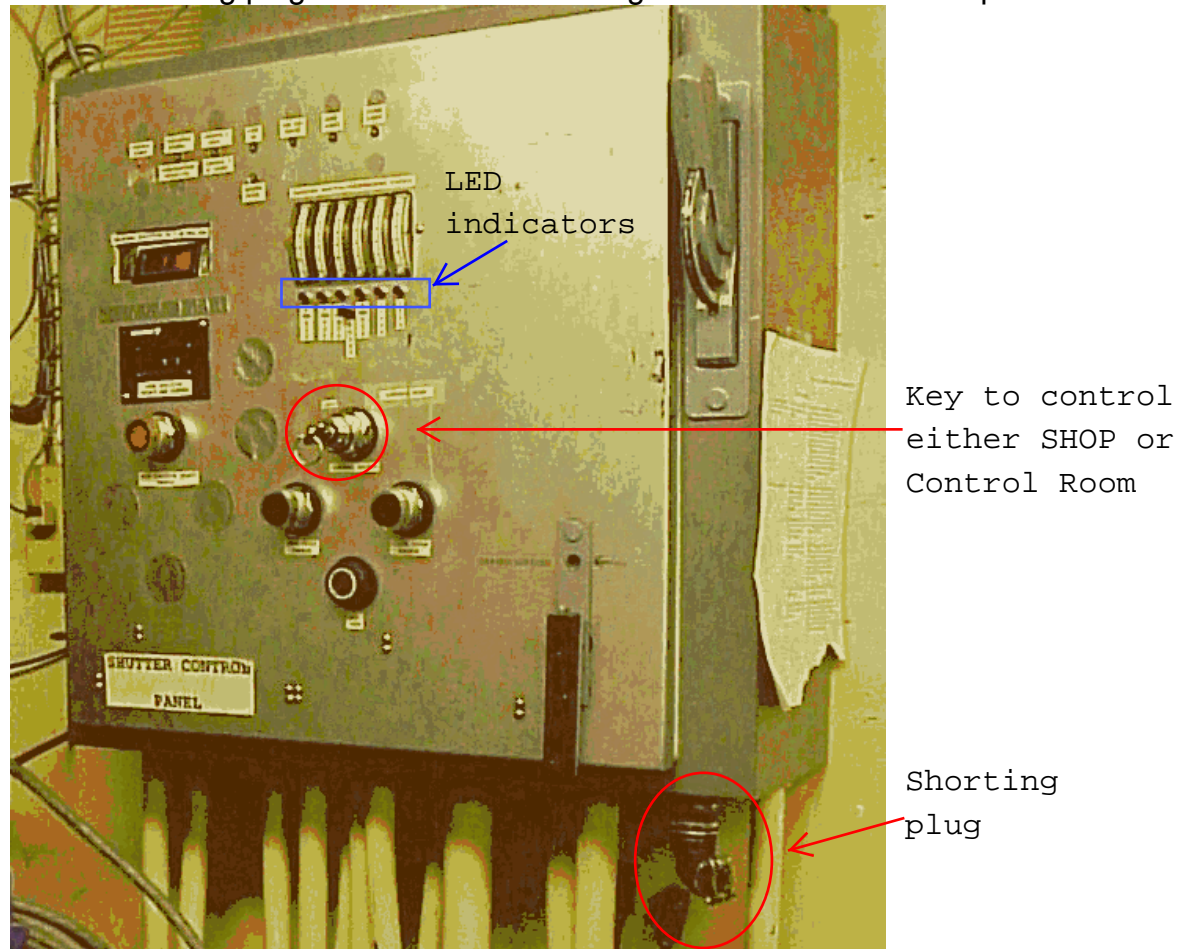

Figure 2 Shutter Control Panel in the machine shop
Step 5. Verify that all six LED indicators are all off. If any of them are on, push the reset button. Turn the key at the middle of the shutter control panel to "SHOP". Check the locations of the LED indicators and the key in Figure 2.